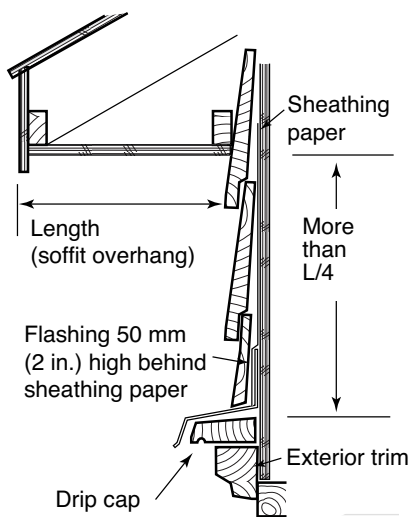

FIGURE 9
- ◆ Ensure that flashings are installed to direct water away from the face of the wall around all openings (see Figure 9).